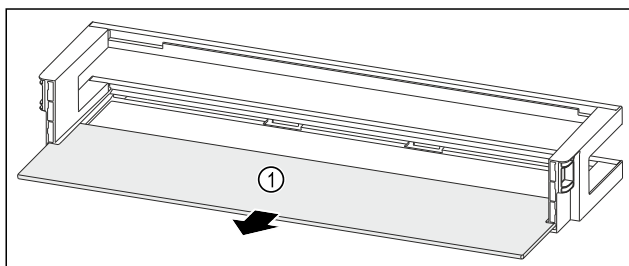

Fig. 274 Door rack with shelf
- Remove the shelf Fig. 274 (1).